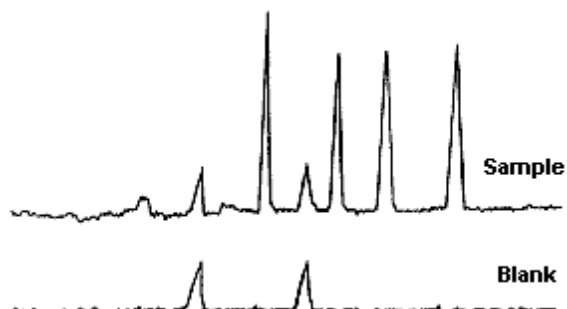

Figure 13. SPURIOUS peaks in blank are unrelated to sample.
- Spurious peaks are those that are unrelated to the previously injected sample (see Figure 13). When a blank is injected, these "ghost" peaks appear as peaks with retention times that are different from sample components.